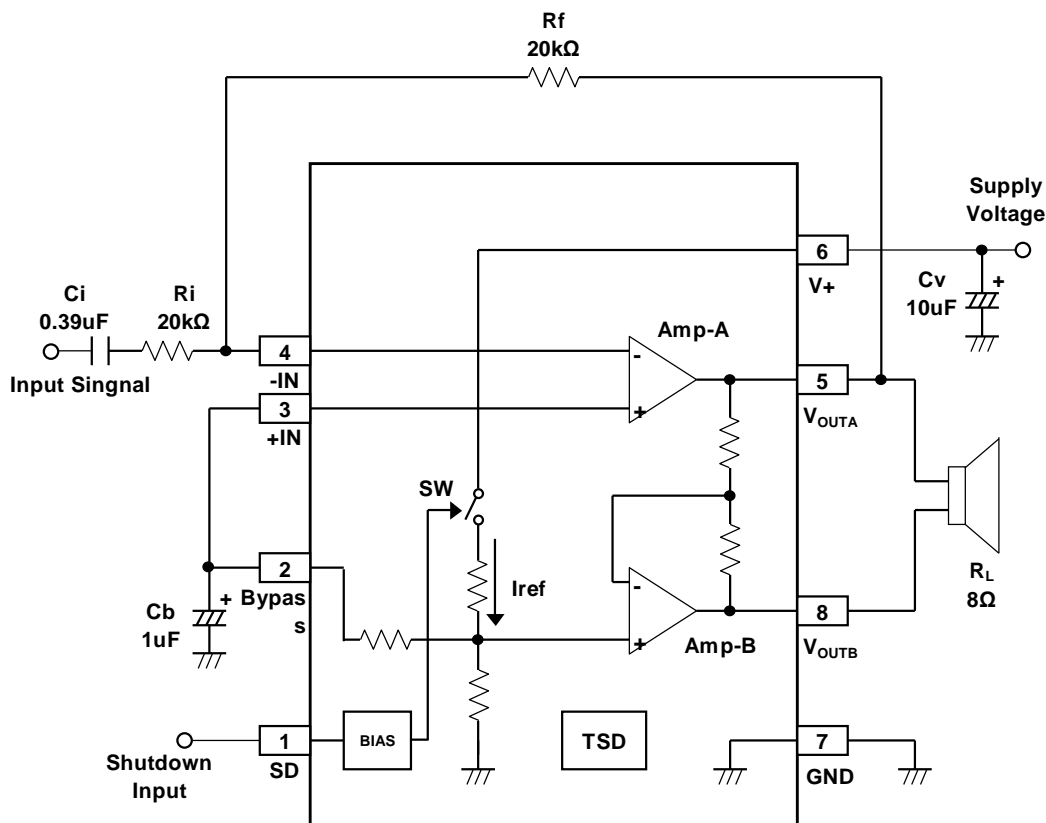

Fig1. Block diagram and Application circuit
Fig.1 shows the NJU7089 internal circuit. It comprises of two power amps (Amp-A, Amp-B), a bias circuit, and a thermal shutdown[TSD] circuit. Pin 4 and Pin 3 are the inverting and noninverting terminal to Amp-A. A reference voltage is provided at Pin 2, which should be connected to Pin 3. Pin 5 is the output terminal to Amp-A. A second operational amplifier, Amp-A is configured with a fixed gain of  $A_v=-1$  and produces the inverted signal of Pin5. The NJU7089 outputs at Pin 5 and Pin 8 produce a bridged configuration output to which a speaker can be connected. Twice the output voltage and four times output power in a bridged amplifier are possible as compared to a single-ended amplifier. When a SD mode is active, the internal switch(SW) turns off to stop an internal bias current. As a result, a SD mode reduces the supply current. The external capacitor ( $C_b$ ) and Internal resistance eliminate disturbing pop noise during the SD mode ON/OFF. (Ref. Page 3) The external capacitor ( $C_b$ ) value depends on the turn-on time. (Ref. Page 7)